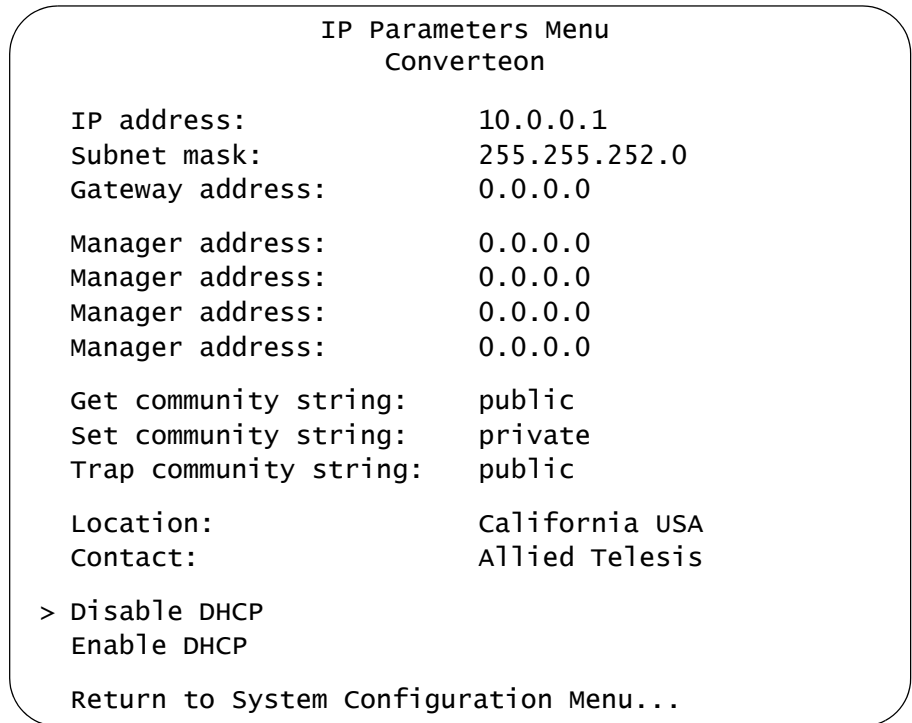

Figure 22. IP Parameters Menu
- From the System Configuration Menu, select **IP Parameters** to display the IP Parameters Menu shown in Figure 22.
3. Select **IP Parameters** to display the menu in Figure 22 on page 81.